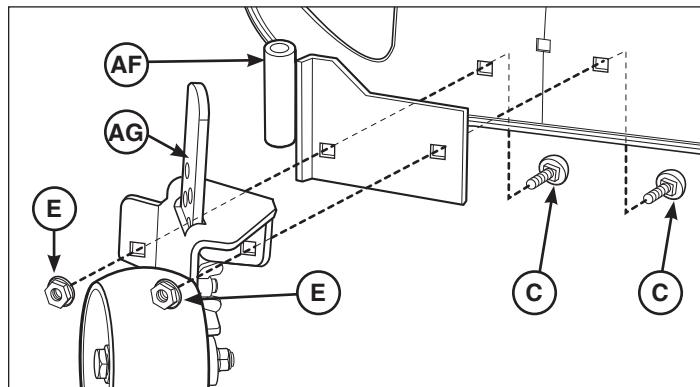

Figure 12
1. From inside of mower, insert carriage bolt (**C**, Figure 12) through hole closest to the right of the discharge opening.